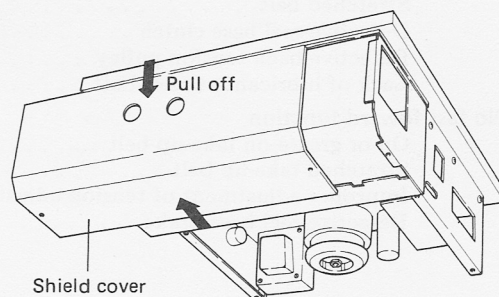

Fig. 5
2. Pull off the metal shield cover as shown in Fig. 5.